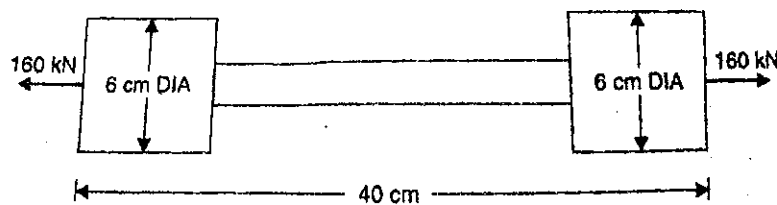

Fig. Q1(a)
- (a) The bar shown in Fig. Q1(a) is subjected to a tensile load of 160 kN. If the stress in the middle portion is limited to 150 N/mm^2 , determine the diameter of the middle portion. Also find the length of the middle portion if the total elongation of the bar is to be 0.2 mm. Young's modulus is given as $2.1 \times 10^5 \text{ N/mm}^2$.